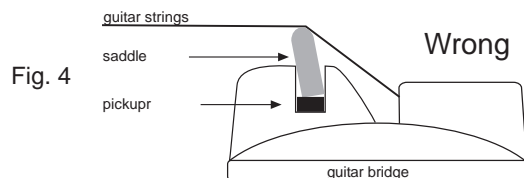

Fig. 4
12. Install the bridge and the pickup, put strings on and tune your instrument. Make sure the strings do not pull the pickup saddle forward to the slot (Fig. 4 and 5).